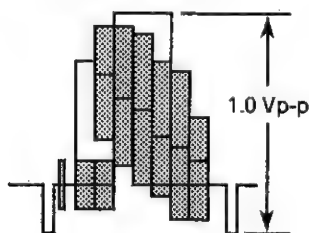

Figure 2-4.
3. Adjust R203 so that the signal amplitude is 1.0Vp-p as shown in Figure 2-4.